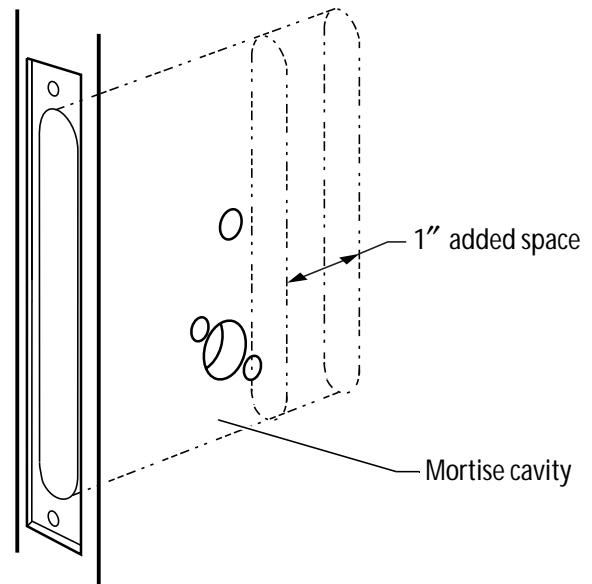

Figure 2 Extending the mortise cavity for wire connections
- **Optional:** With a 1" diameter drill bit extending into the mortise cavity, drill out an additional 1" as shown in Figure 2.